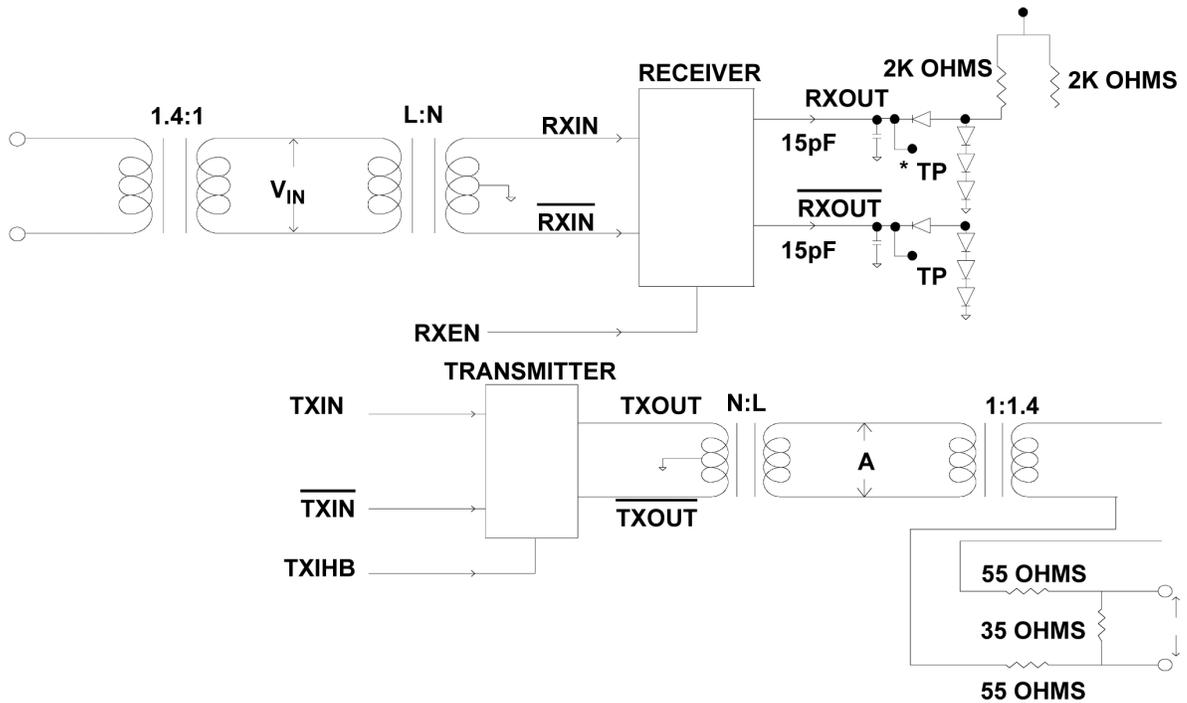

Figure 7. Transformer-Coupled Transceiver with Test Load
- 2) Terminal is defined as transceiver plus isolation transformer. Point A defined in figure 7.